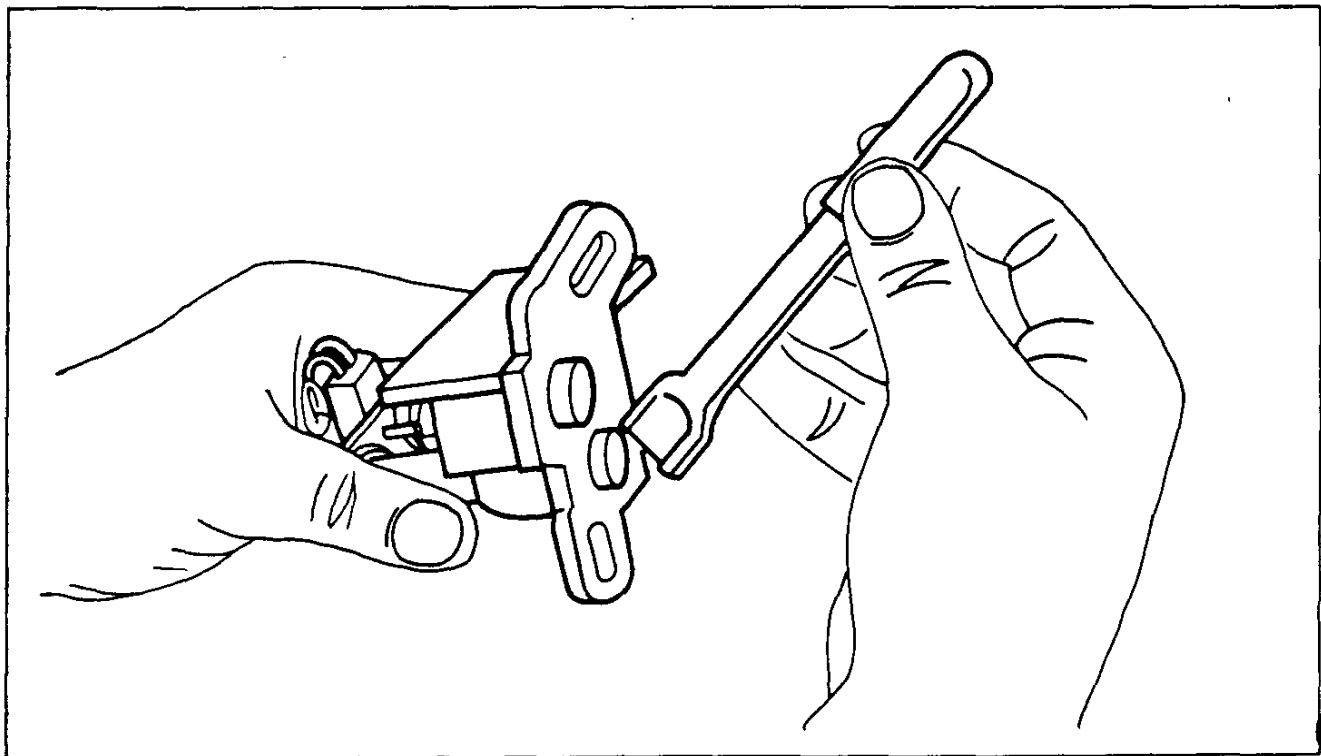

Figure 16G
3. This operation is necessary if the sensor bracket has been loosened from its original mounting position. If the sensor bracket has not been loosened, go to Step 5. Position the SRS/TRS bracket so that the round end of the TRS is located in the half moon portion at the front of the Timing Tool as shown in Figure 16G.